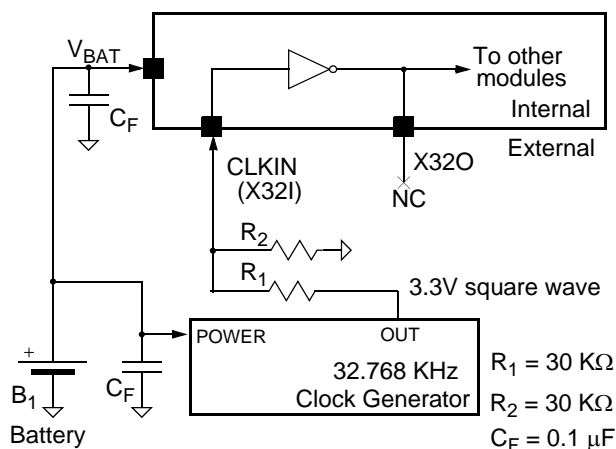

Figure 4-6. External Oscillator Connections
32.768 KHz can be applied from an external clock source, as shown in Figure 4-6.